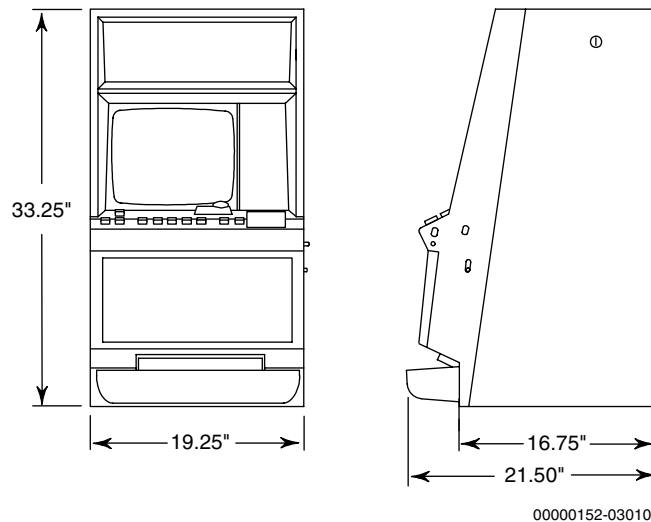

Figure 2-1. Cabinet Dimensions – Game King 13” Upright
- Cabinet Dimensions – Figure 2-1